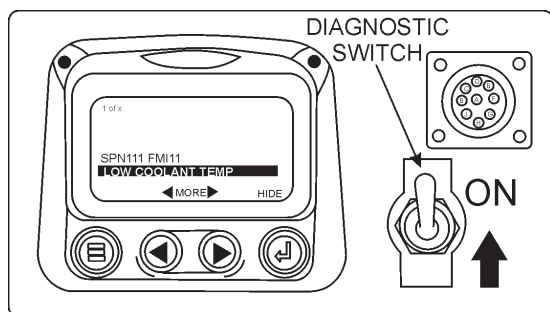

Figure 43. Active Fault Code Message
5. Place the Diagnostic ON/OFF switch in the **ON** position. Verify that an Active Fault Code message is being displayed (Diagnostic Display Panel). The fault code message will continue to be displayed until the fault has been corrected. Figure 43 shown below is a typical example of an active fault code message (Low Radiator Coolant).